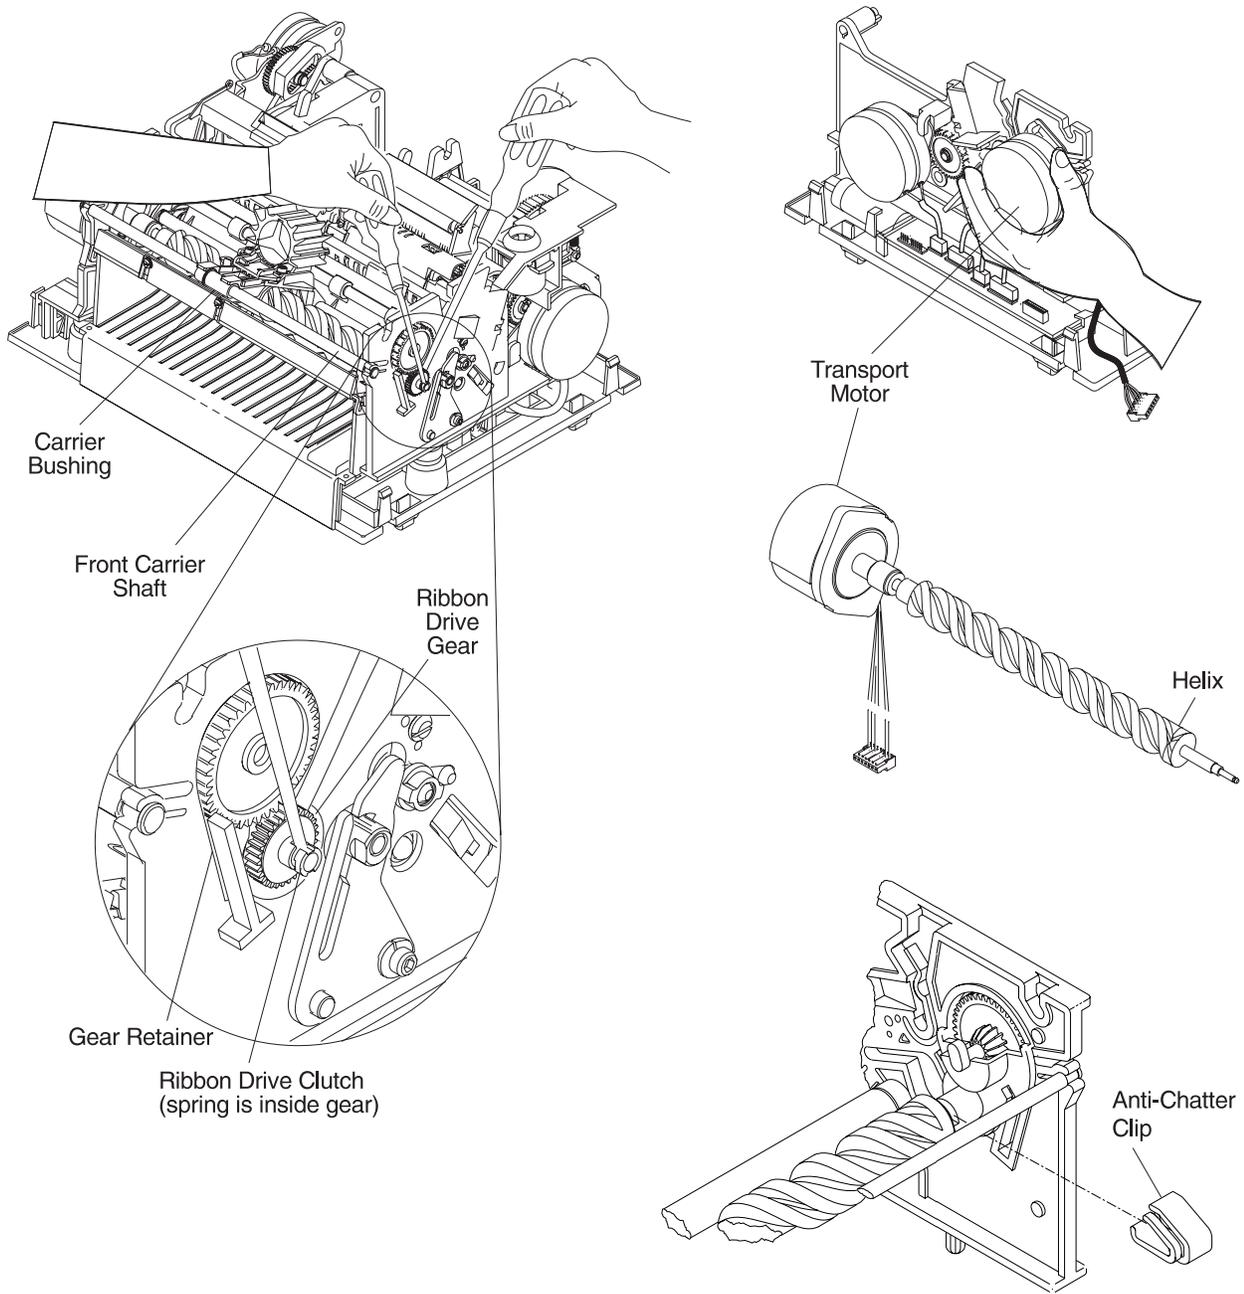

Figure 6-85. Transport Assembly
- 5** Remove the ribbon drive clutch at the end of the transport shaft by prying the gear tabs open with a screwdriver while pushing the gear out with another screwdriver as shown. See Figure 6-85 on page 6-122.
- 9** Remove the anti-chatter clip (if present) from the helix bearing sleeve on the right side frame. See Figure 6-85 on page 6-122.
- 12** Remove the front carrier shaft by gently releasing one end at a time from the side frames. See Figure 6-85 on page 6-122.
- 2** Reinstall the front carrier shaft by gently pressing one end at a time into the side frames. Ensure that the carrier bushing is installed correctly. See Figure 6-85 on page 6-122.
pushing the gear out with another screwdriver as shown. See Figure 6-85 on page 6-122.